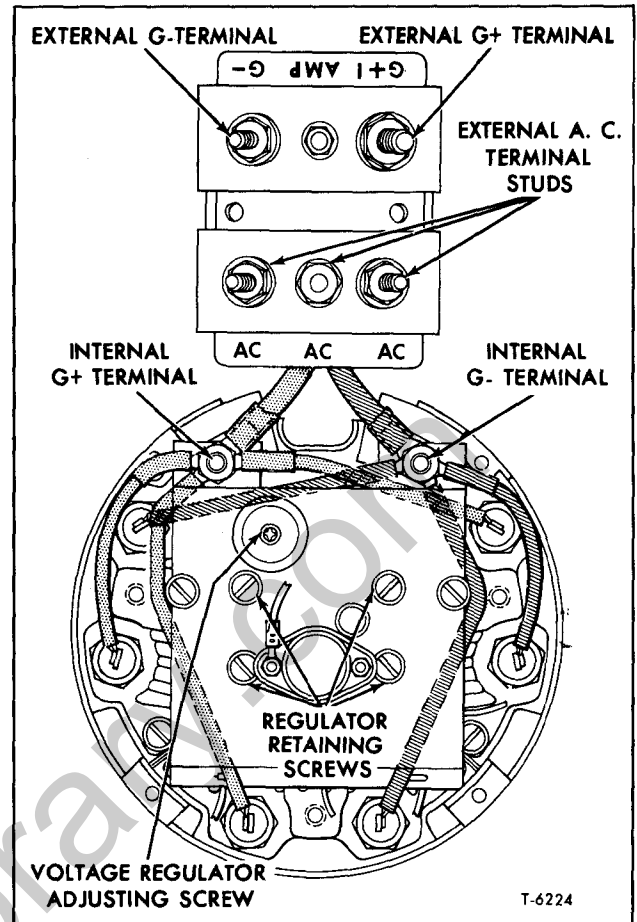
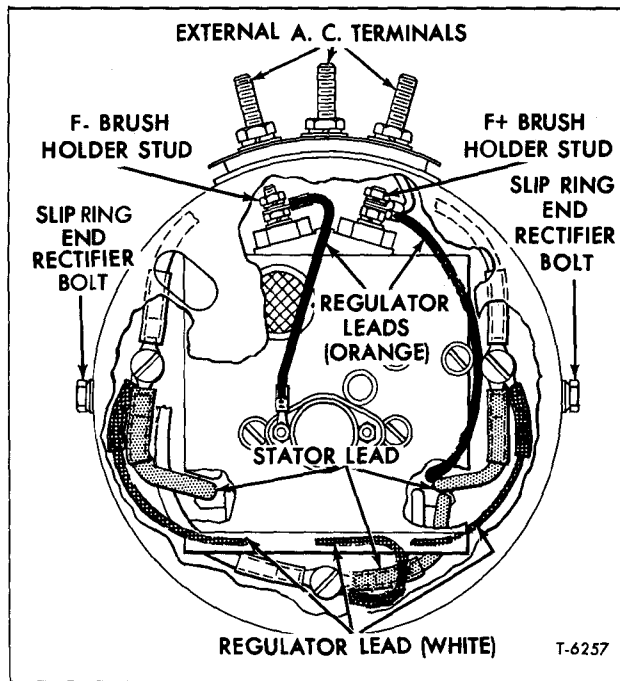

Figure 10—Generator Terminals and Wiring Connections (105-Amp. Generator)
Figure 11—Regulator Terminals and Wiring Connections (Typical)
2. Disconnect external (G+) lead from generator (fig. 10) and install ammeter in series with (G+) terminal on generator and the lead disconnected from (G+) terminal.
2. Loosen two bolts and remove slip ring end rectifier cover (fig. 11).
3. Disconnect field lead from (F-) brush holder stud (fig. 11).
5. Install suitable ammeter in series at (G+) external terminal (fig. 10), and voltmeter across battery terminals.
7. Connect a jumper wire from (G+) terminal (fig. 11) to (F+) brush holder (fig. 10) after removing existing two wires.
1. Remove two bolts which attach cover to slip ring end frame, then remove cover (fig. 11).
2. Remove internal (G+) terminal stud nut and washer from back of generator (fig. 10), then remove three diode leads and the (G+) jumper lead. Connect these four leads together with a bolt. Repeat this operation with the internal (G-) leads (fig. 10). Again bolt all four leads together.
1. Remove two bolts which attach cover to slip ring end frame, then remove the cover (fig. 11).
2. Referring to figure 11, remove nuts, washers, and leads from (F+) and (F-) brush terminals. Remove two brush holders and slip ring brushes with springs.
Ammeter Method: Insert 12-volt battery and ammeter in series with (F+) lead wire and terminal (fig. 11). Ammeter should register 3 amps. If reading is above 3 amps the rotor coil is shorted.
1. Loosen two attaching bolts, then remove slip ring end rectifier cover (fig. 11).
2. Remove wires from (F+) and (F-) terminals on brush holder studs (fig. 11).
4. Connect wires to (F+) and (F-) terminals (fig. 11), then install slip ring end rectifier cover and attach with two bolts.
3. Remove three AC leads from regulator at heat sink (larger white wires) (fig. 11).
4. Remove internal (G+) and (F-) nuts (fig. 10) at regulator terminal plate. Lift off three diode leads from each cap screw.
moved.) (Refer to fig. 10.)